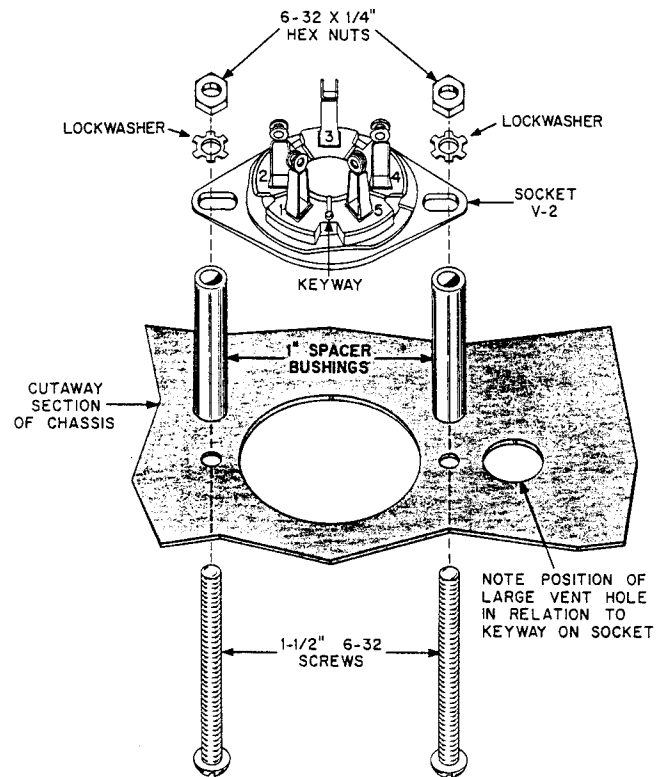

FIGURE 3. HOW TO MOUNT V-2
- V-2 is a ceramic 5-pin socket. The keyway of this socket is a raised dot. The keyway must be positioned toward the rear of the chassis. As shown in Figure 3, put the two 6-32x $1\frac{1}{2}$ " screws thru the holes in the chassis from the top. Place the two 1" spacer bushings on the screws and then put the socket on the two screws. Put a lockwasher on each screw and tighten two 6-32 nuts on them.